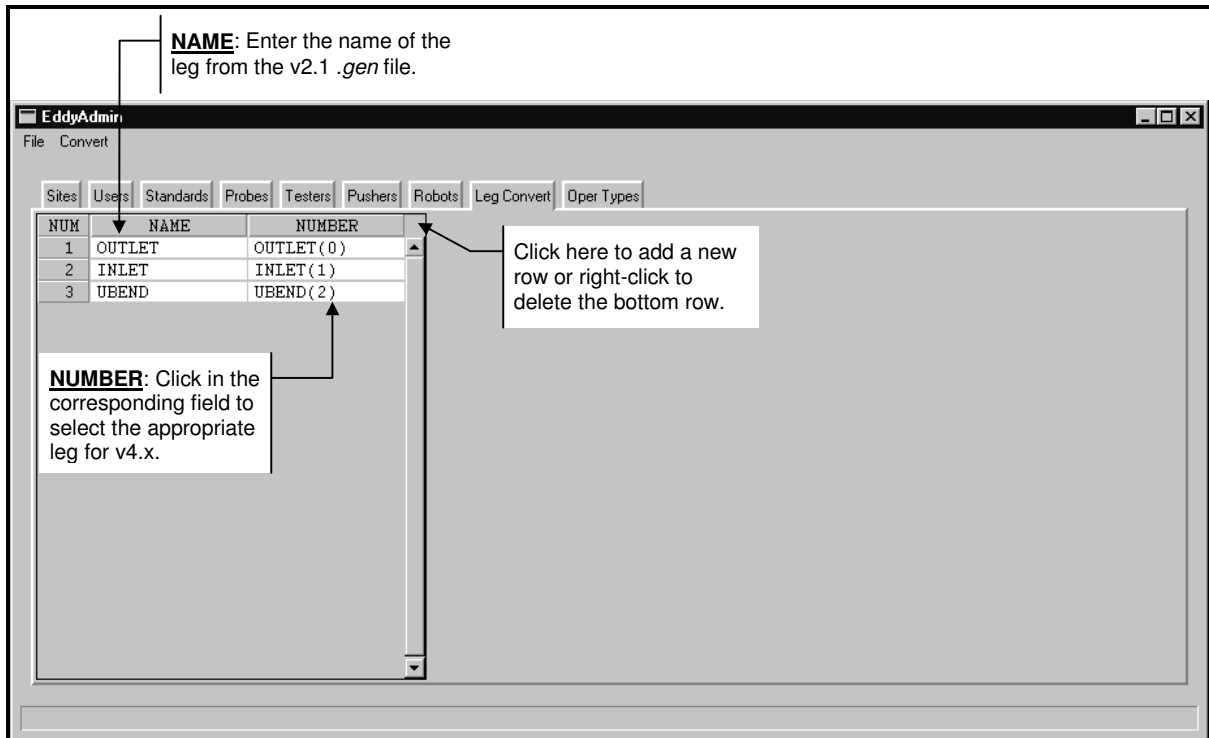

Figure 3-35. EddyAdmin Dialog - Leg Convert Tab
The **Leg Convert** tab, shown in Figure 3-35, provides a way to convert the 'leg name' used in v2.1 .gen files to the correct 'leg number' used in v4.x .cmp files. These settings are used only when converting v2.1 .gen files to v4.x .cmp files using the **Convert** menu (*discussed later*). In v2.1, the 'leg names' in the .gen files were in alpha format; however, v4.x uses fixed integers (numbers) to identify either leg and the U-bend region. As shown in Figure 3-35 under the **NUMBER** column, OUTLET = 0 (zero), INLET = 1, and the UBEND = 2. For example, in a previous v2.1 .gen file, the outlet name may be WEST; therefore, WEST would be entered in the **NAME** field and OUTLET (0) would be selected in the adjacent **NUMBER** field. To add a new row, **click** the small gray box adjacent to the **NUMBER** column header as shown. Inversely, the bottom row may be deleted by **right-clicking** the gray box. The settings in this dialog are ignored unless a convert routine is being performed. Review Figure 3-35 for example entries.